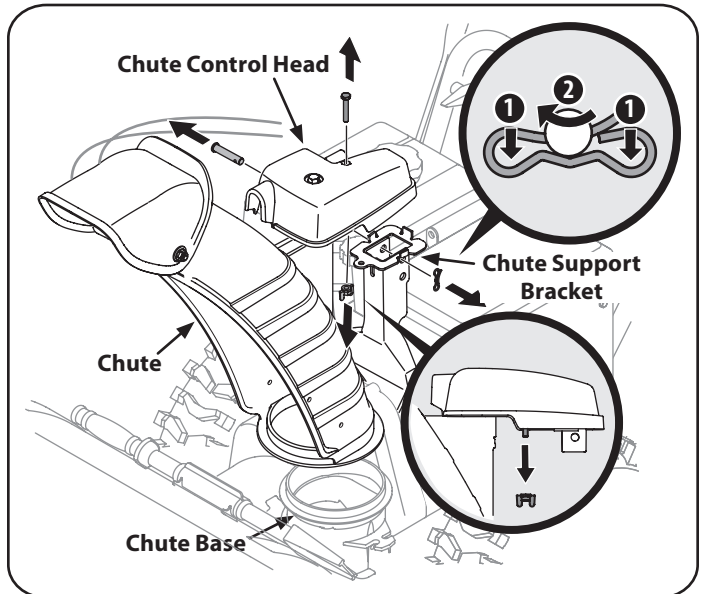

Figure 3
2. Remove cotter pin, wing nut, and hex screw from chute control head and clevis pin and bow-tie cotter pin from chute support bracket. See Figure 3.